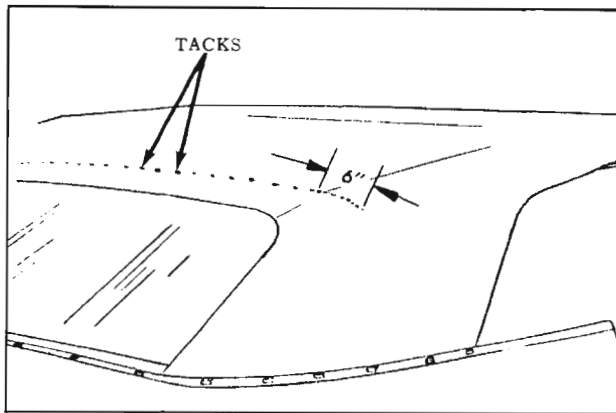

Fig. 16-133 Tacks Outboard of Seam
**IMPORTANT:** Tacks must be installed along a straight line in center of rear bow. (Fig. 16-133). Tacks outboard of deck seams should be restricted to distance not to exceed six inches, which is length wire-on binding extends past seam. (Fig. 16-133)